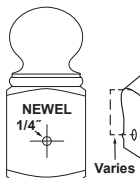

Fig. 2
6. Measure distance from top of the rail to center of 3/8" hole in pitch cut. (Fig.2)
7. Mark newel in center and at proper height to achieve rail height. (Fig. 2)
8. Drill 1/4" pilot hole 2-1/8" deep. (Fig. 2.)